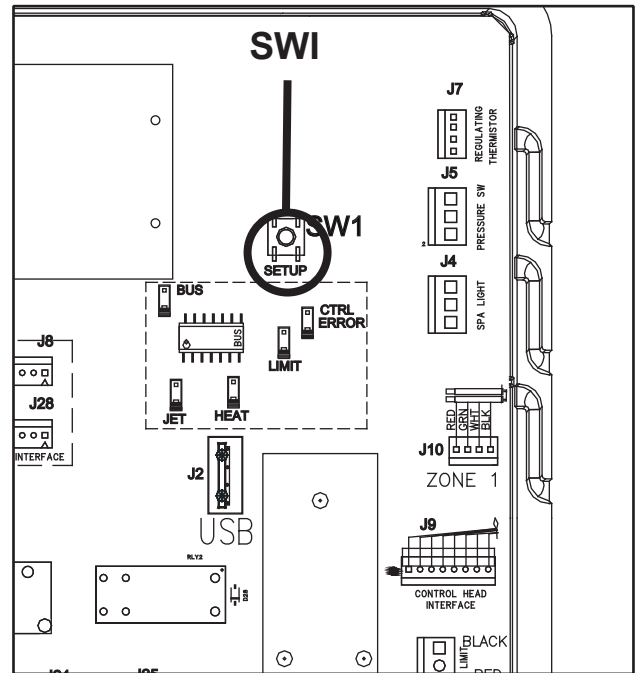

Figure 2
- Locate **SWI**, refer to *Figure 2*, and press 3-5 seconds for access to the jumper settings.